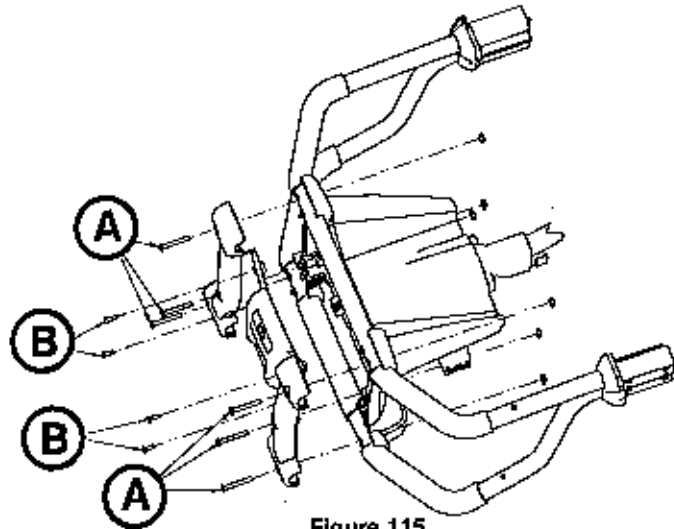

Figure 115
3. Using a T25 Torx driver, remove the six outer button head cap screws (A) from the face plate (Figure 115). Save all screws for reinstallation.
4. Using a T20 Torx driver, remove the four inner delta screws (B) from the face plate to remove the face plate (Figure 115). Save all screws and the face plate for reinstallation.